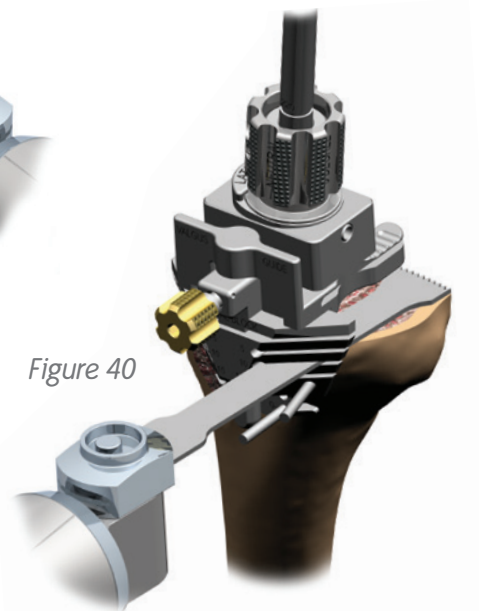

Figure 40
1. If needed, resect the appropriate distal femoral wedges through the distal cutting block (Figure 40).